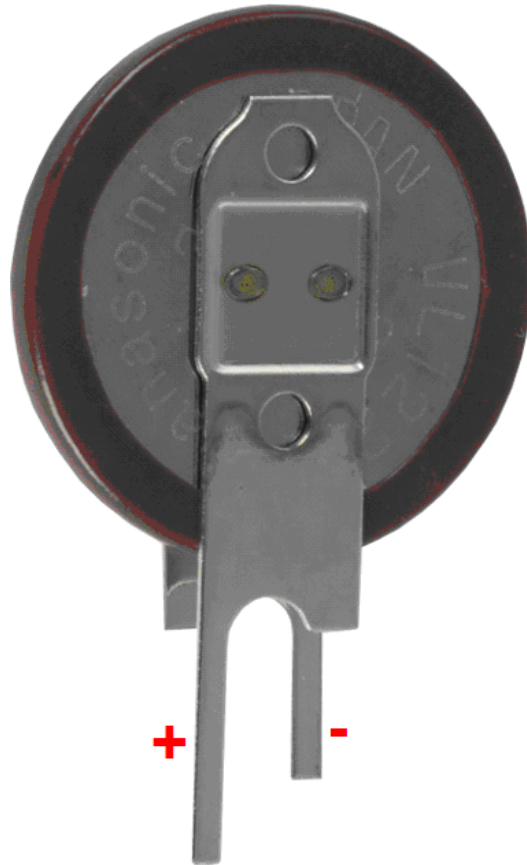

Figure 66. Optional Battery
The board was designed to use the VL-1220/VCN battery from Panasonic-BSG. This is a Vanadium Pentoxide Lithium Rechargeable Battery with a 7mAH capacity. **Figure 66** is a picture of the battery.
- 3) Using **Figure 66**, locate the positive (+) lead of the battery.